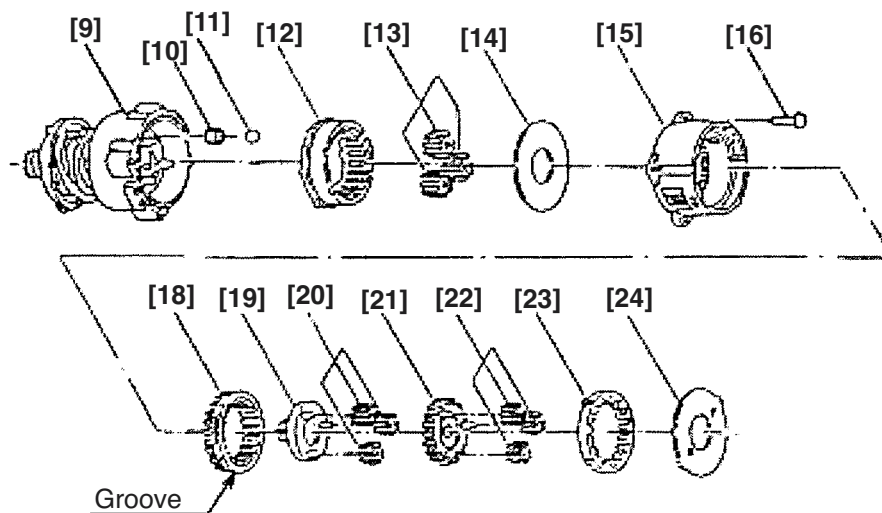

Fig. 10
(b) Install the parts series from the six Rollers [10] to Washer (B) [24] into the assembly reassembled in step (2). (See Fig. 10.)